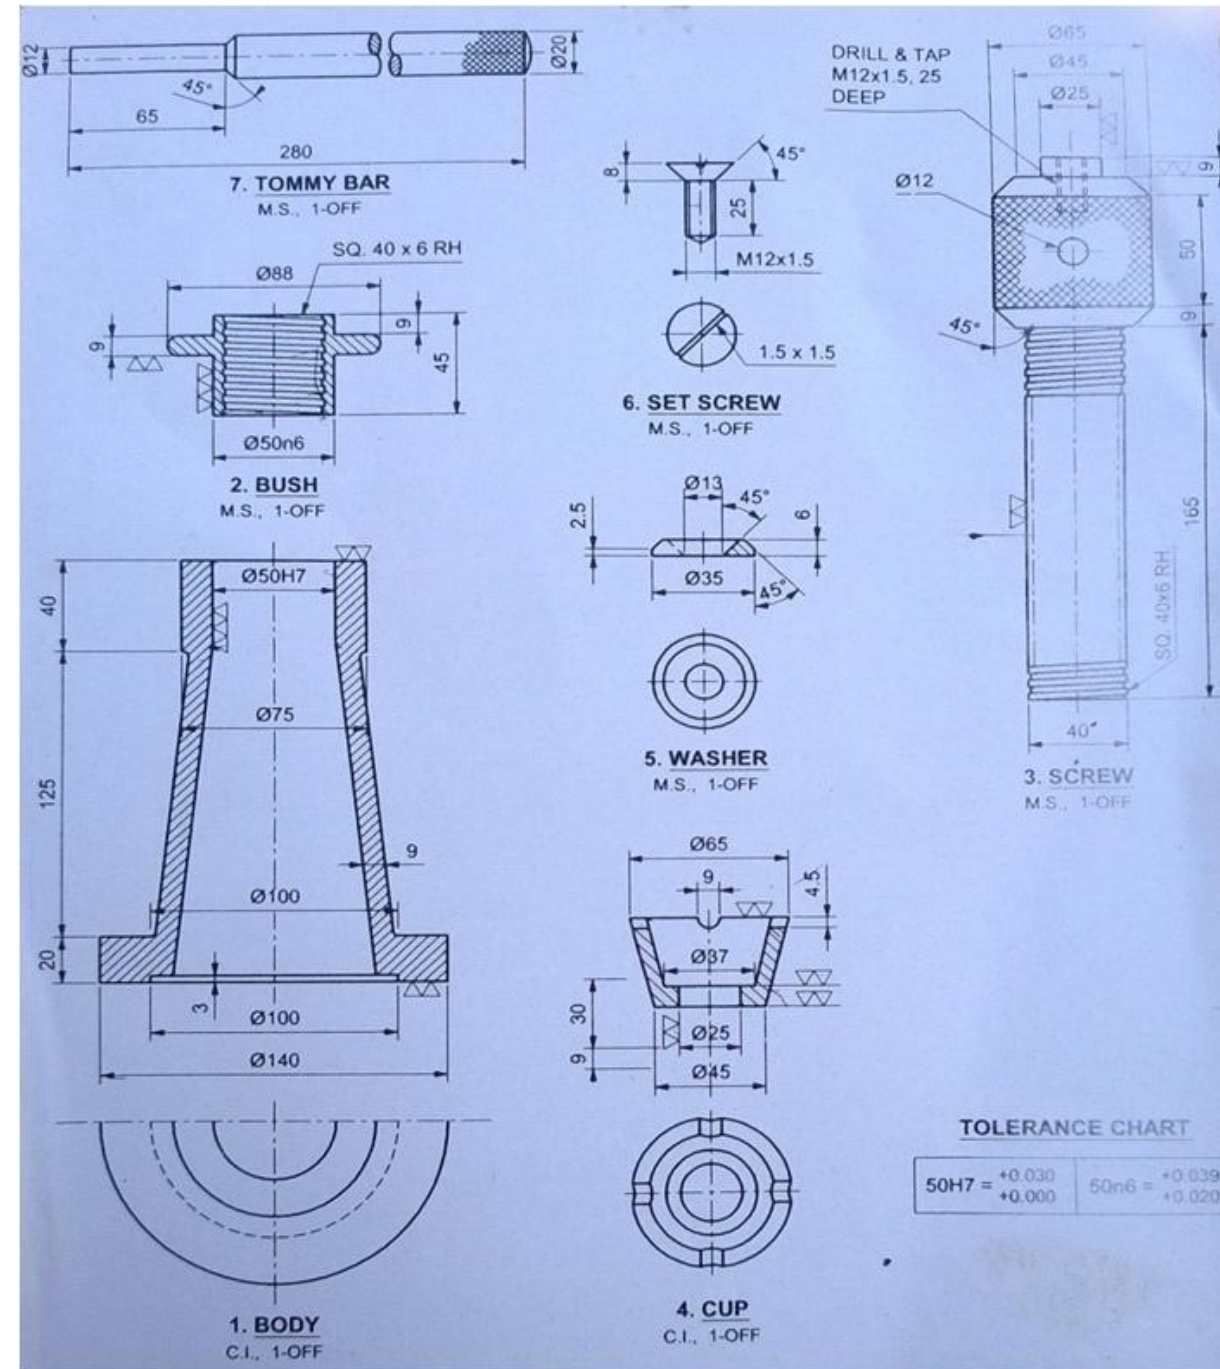

Figure 8
4. Figure 8. Shows the details screw jack. Draw the following views of the assembly. (a) front view sectional (b) top view outside (c) prepare bill of material.